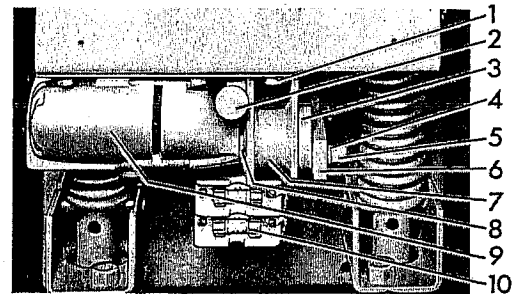

Figure 15. (8034471) Driving Elements
Refer to Figure 15. Onbreakers with a "C" or "K" suffix, a set of protecting fuses (10) are mounted on the front of the breaker. These fuses are the primary protective devices for the closing control circuit on those breakers that are used in metal-clad units designed for solenoid operated breakers.